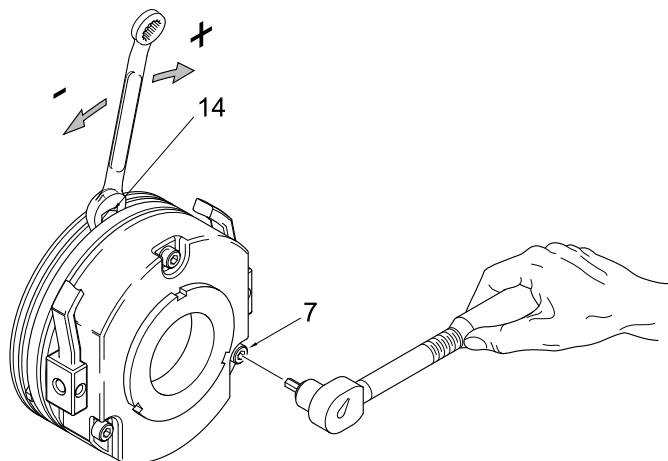

Figure 80 – Adjusting the Traverse Brake Air Gap
Where adjustment is required, loosen the assembly screws (7) by half a turn. Adjust the air gap by turning the adjustment tubes (14) until the required air gap is reached (see Figure 80).
- If the air gap is too large, screw the three adjustment tubes (14) into the stator. If the air gap is too small, screw the adjustment tubes out of the stator.